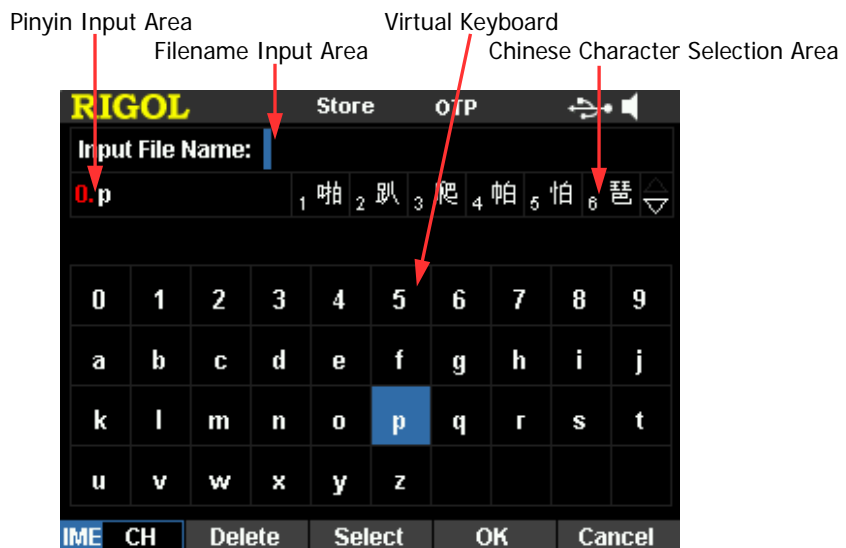

Figure 2-12 Filename Input Interface (Chinese)
2. Press **Browser** to switch the cursor to the directory area to select the desired directory. Press **Browser** again to switch the cursor to the file area and select the desired storage directory. Press **Save** to open the filename input interface (Figure 2-11 or Figure 2-12).
Press **IME** to select “CH” or “EN” in the filename input interface (Figure 2-11 or Figure 2-12). Press **.** on the numeric keyboard to switch between English uppercase and lowercase.